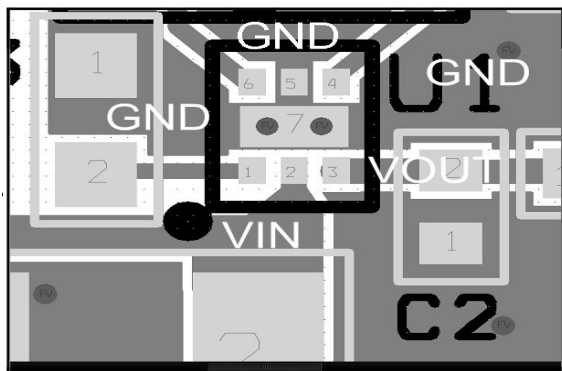

Figure 25: Proper layout of output and ground copper area
3. The V_{IN} , V_{OUT} and GND pins will dissipate most of the heat generated during a high load current condition. Using wide traces will help minimize parasitic electrical effects along with minimizing the case to ambient thermal impedance. The layout suggested in Figure 25 provides each pin with adequate copper so that heat may be transferred as efficiently as possible out of the device. The low-power FLAGB and ON pin traces may be laid-out diagonally from the device to maximize the area available to the ground pad. Placing the input and output capacitors as close to the device as possible also contributes to heat dissipation, particularly during high load currents.